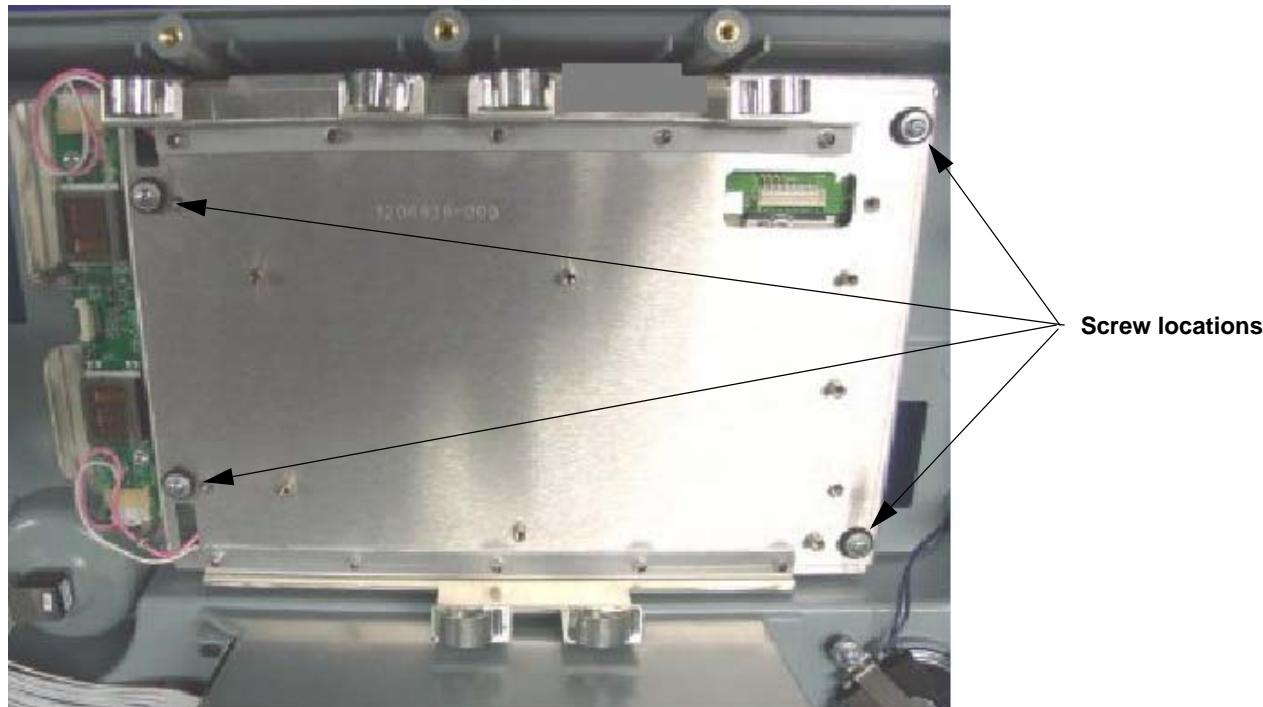

Figure 8.17—LCD display assembly screw locations
4. Remove the four LCD bracket mounting screws (see Figure 8.17 on p. 206). Discard the screws.